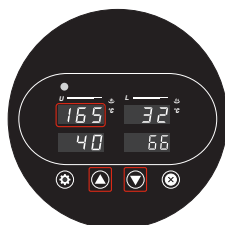

Fig. 2
2. Press Up ▲ or Down ▼ buttons to select the desired temperature (Fig. 2). The selected temperature is flashing on the display.